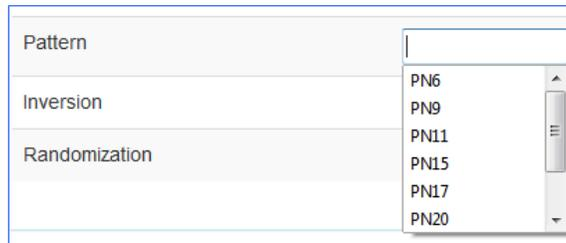

Figure 103: Data Generator, Pattern Selection
- Pattern – Sets the data pattern produced by the data generator, as shown in Figure 103; This may be a fixed pattern or a pseudorandom pattern that repeats based on the chosen pattern/sequence (a shorter pattern looks more regular, a longer pattern looks more random)